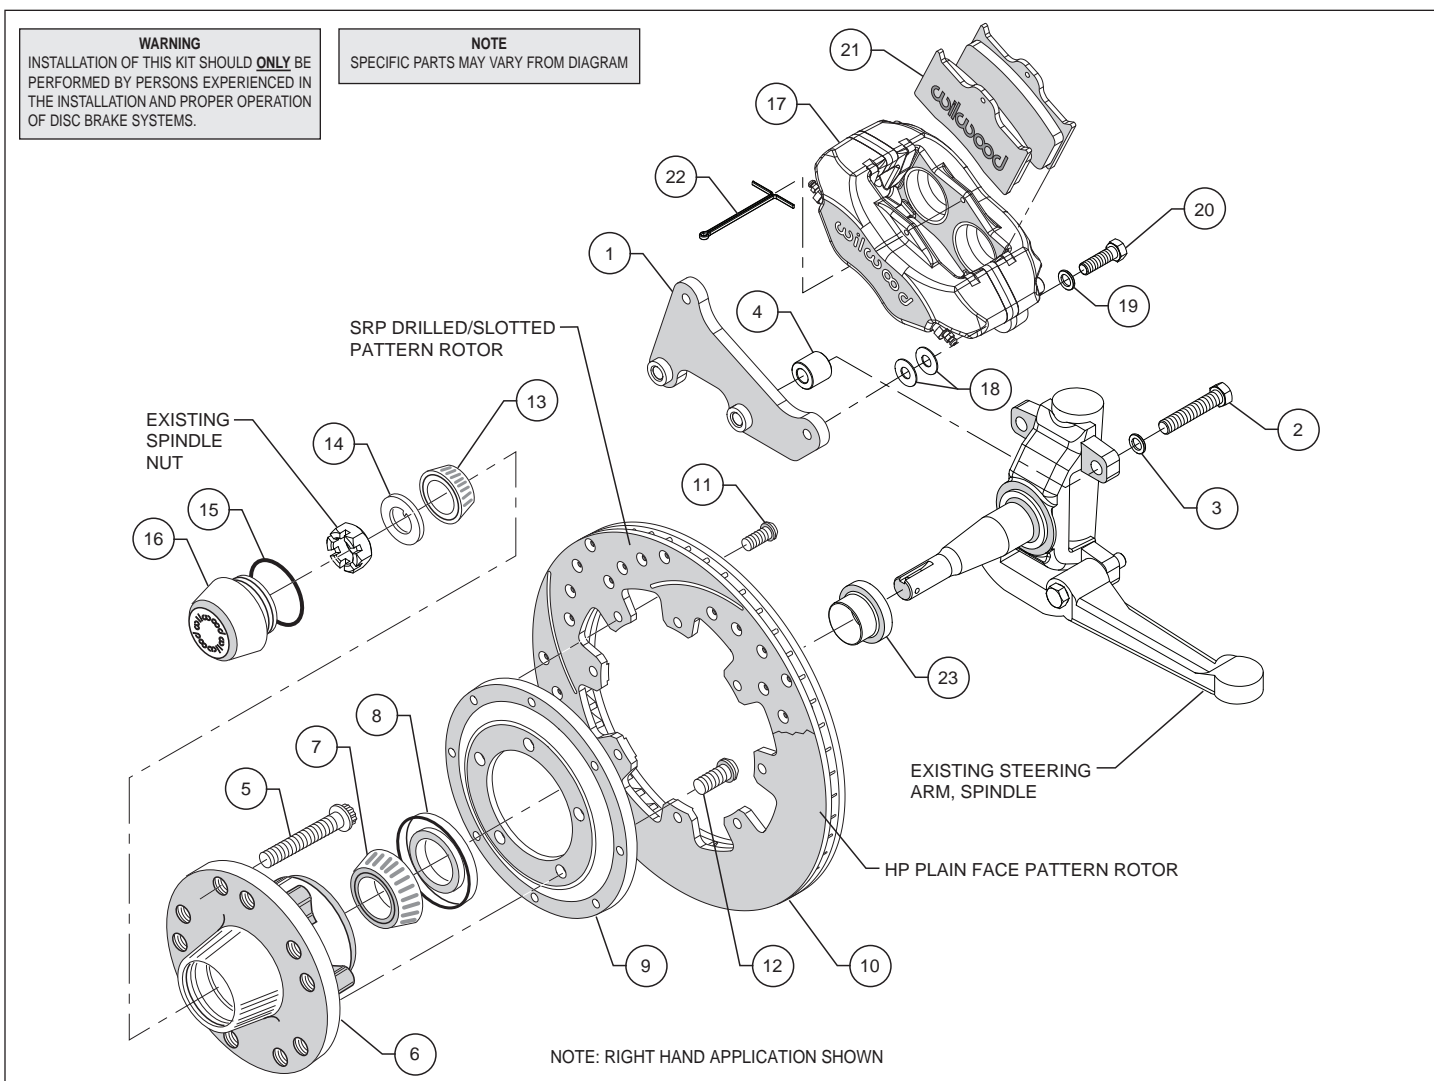
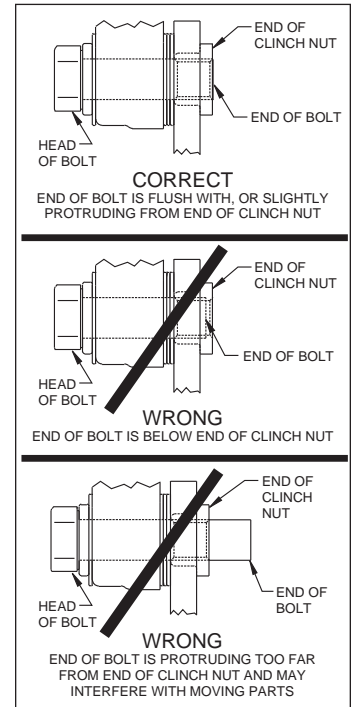

Figure 1. Typical Installation Configuration
Figure 3. Clinch Nut Engagement Diagram
**Assembly Instructions** (numbers in parenthesis refer to the parts list and Figure 1 on the preceding pages): **CAUTION:** All mounting bolts must fully engage clinch nuts. Be sure to check that all bolts are either flush or protruding through flanged side of clinch nut after shimming, Figure 3.
- Orient the caliper mount bracket (1) as shown in Figure 1, and install using bolts (2) and washers (3). Place a spacer (4) on each bolt between the bracket and caliper mounting bosses, Figure 1. Ensure that the flanged heads of the clinch nuts in the bracket are facing outboard. Temporarily tighten the mounting bolts. **NOTE:** The bracket must fit squarely against the mount bosses on the upright. Inspect for interference from casting irregularities, machining ridges, burrs, etc. Remove bolts one at a time, apply red *Loctite*® 271 to the threads and torque to 70 ft-lb.
- Slide the inner bearing spacer (23) onto the spindle with the larger O.D. facing inward, Figure 1 and Photo 1.
- Install wheel studs (5) into the hub (6), Photo 2. Torque to 77 ft-lb. **NOTE:** There are two five lug patterns in the hub (5 x 4.75 and 5 x 5.00). Ensure the correct hub stud pattern is being used to fit the wheel application.
- Pack the large inner bearing cone (7) with high temperature disc brake bearing grease (available from your local auto parts store) and install into the backside of the hub (6), Photo 3.
- Install the grease seal (8) by pressing into the backside of the hub (6), flush with the end of the hub, Photo 3.
- Orient the rotor (10) and the rotor adapter (9) as shown in Figure 1 and Photo 4. Attach the rotor to the adapter using bolts (11). Using an alternating sequence, apply red *Loctite*® 271 to the threads, and torque to 25 ft-lb.
- Mount the adapter/rotor assembly (9/10) to the hub (6) using bolts (12), as shown in Figure 1 and Photo 5. Using an alternating sequence, apply red *Loctite*® 271 to the threads, and torque to 55 ft-lb.
- Screw dust cap (16) into hub (6), Photo 7. Friction created by the o-ring (15) on the dust cap keeps it from unscrewing. **NOTE:** The O.D. of the existing OEM spindle washer may be larger than the I.D. of the dust cap not allowing it to seat against the hub face. Therefore, use the spindle washer (14) supplied with the kit instead of the OEM washer.
- NOTE:** Please reference the caution statement at the beginning of the assembly instructions. Mount the caliper (17) onto the caliper mounting bracket (1) using bolts (20) and washers (19), as shown in Figure 1. Initially place two .035" thick shims (18) on each bolt between the caliper and the bracket, Photo 8. Temporarily tighten the mounting bolts and view the rotor (10) through the top opening of the caliper. The rotor should be centered in the caliper, Photo 9. If not, adjust by adding or subtracting shims between the bracket and the caliper. Always use the same amount of shims on each of the two mounting bolts. **NOTE:** The end of each bolt must be flush with or slightly protruding from the head of the clinch nut, as shown in Figure 3. If necessary place spare shims between washer (18) and caliper mounting ear to achieve the proper clinch nut engagement. Later, after the calipers are bled, the caliper mounts bolts will be secured using red *Loctite*® 271.